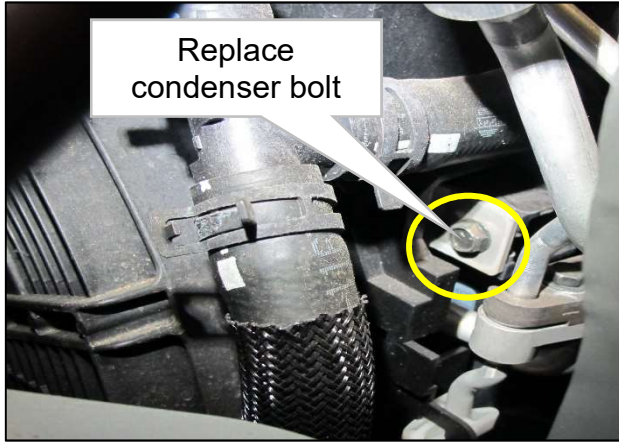
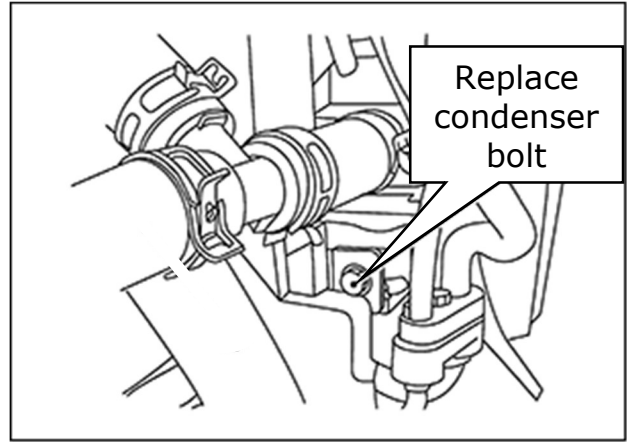

Figure 2
Figure 3
- Replace the condenser bolt (Figure 2) shown in **step 11** of the ESM (Figure 3) with (01125-N6021) BOLT